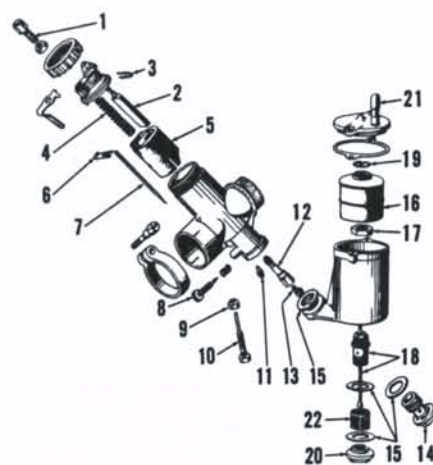

Fig. BE2-1—Exploded view of Del'Orto carburetor. Float bowl must be vertical when installed.
CARBURETOR. Del'Orto UB type carburetor is used on all models. Idle speed is adjusted by turning stop screw (10—Fig. BE2-1). Make certain lock nut (9) is tightened after adjustment is complete. Idle mixture is adjusted at needle (8). Normal setting for idle mixture needle is 1½ turns open. Clip (6) should normally be positioned in second groove from top of needle (7). Refer to the following for correct jet sizes.